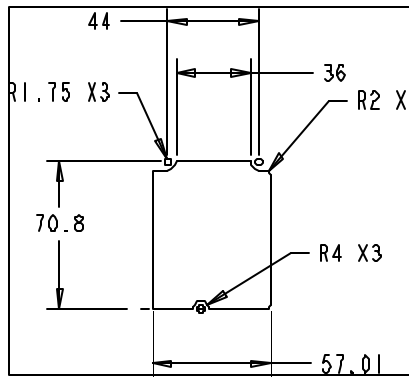

Figure 11. Suggested TFX12V Chassis Cutout
- Chassis cutout (normally in the rear panel of the chassis) as shown in Figure 11.